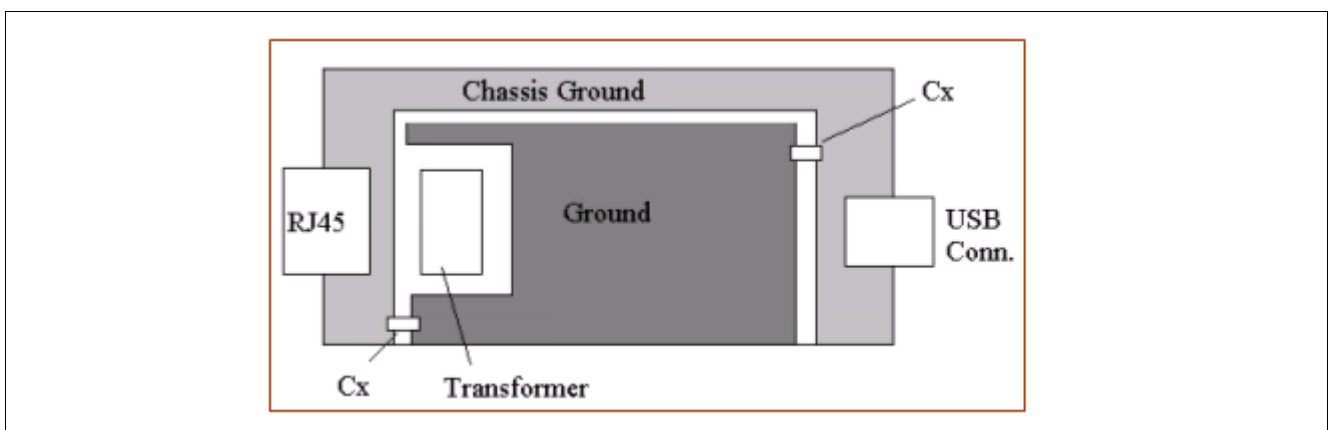

Figure 13 Correct placement of power and ground planes
- Avoid power and ground planes placing directly under the transformer. See Figure 13.